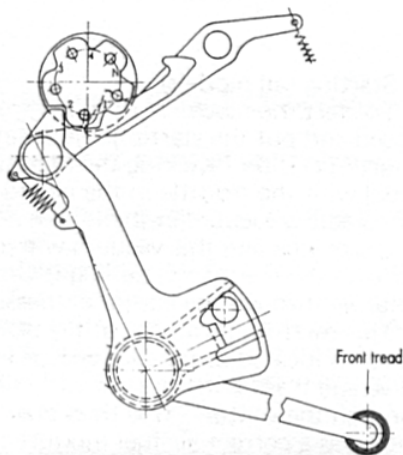
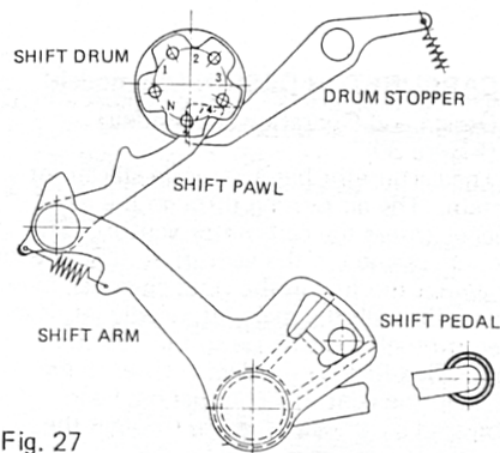

Fig. 26
Fig. 27
The Gear Shift Mechanism (Figure 26) consists of a shift-drum, shift fork assembly, shift drum pawl and shift arm assembly, drum stopper, gearshift shaft and shift pedal.
D. Gear Shift Operation (Figure 26 & Figure 27)